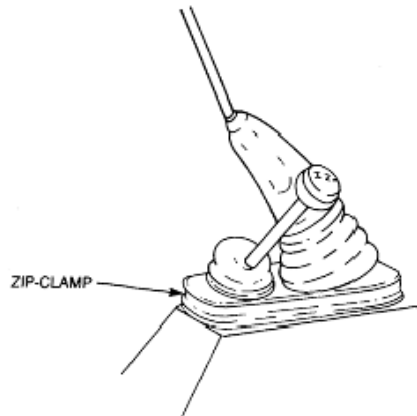

Figure 52 Gear Lever Rubber Boot Removal
- Remove the zip clamp securing the rubber boot to the transmission tunnel cover (Figure 52).
- Install the rubber boot onto the tunnel cover and secure it with the zip-clamp (Figure 52).
- Install the rubber boot onto the tunnel cover and secure it with a zip clamp (Figure 52).